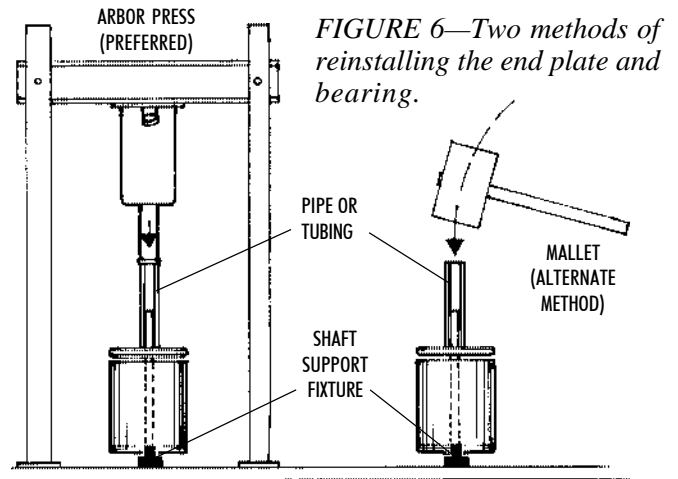

FIGURE 6—Two methods of reinstalling the end plate and bearing.
2. Use an arbor press to press the front cover and bearing back onto the motor shaft. (See figure 6.) Use a fixture similar to the one shown in Figure 5 or an equivalent method to support the end of the motor shaft while pressing the bearing onto the shaft. A tube with about a 5/16" inside diameter should be used over the motor shaft so that pressure is transferred only to the inner race of the bearing. NOTE: If an arbor press is not available, use the tubing and a mallet to gently and evenly drive the bearing down the shaft until the cap seats in the motor body. There is a bump on the perimeter of the cap that mates with a notch in the motor body to locate the cap in the proper position.